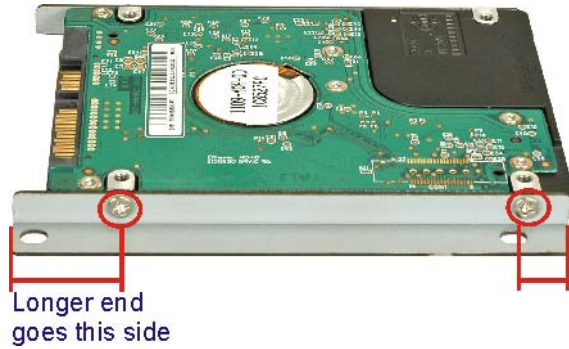

Figure 2-3: HDD Retention Screws
Step 5: Attach the HDD brackets to the HDD. The brackets are different for each side. Make sure the side with the hard drive screw hole further from the end goes at the SATA connector end as shown in Figure 2-3.